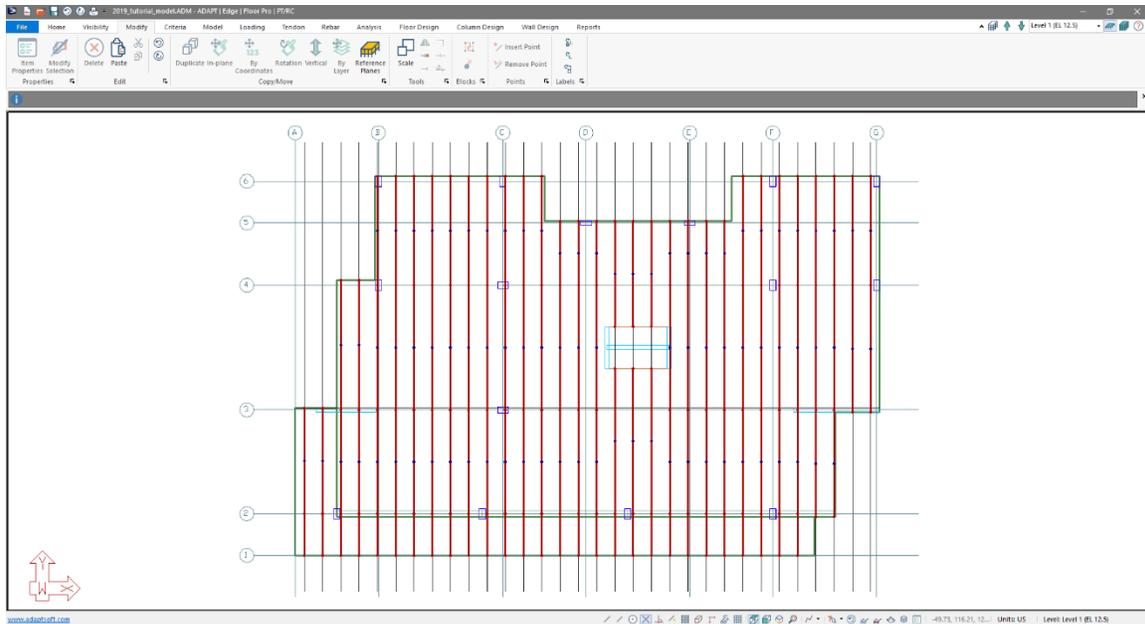

Figure 9-65
- Once you have completed modeling and copying the master tendons click on the *Top View*  icon in the **Bottom Quick Access Toolbar**. This will bring you to the view of the model shown in **FIGURE 9-65**.